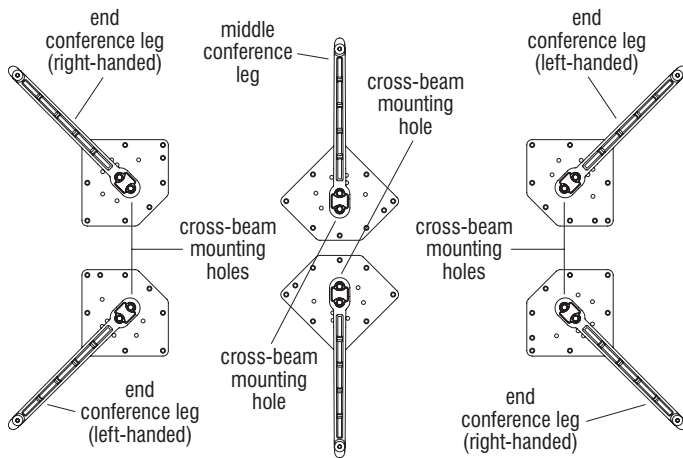

Figure 1 - (top view)
2. Identify the end conference legs and any middle conference legs. Carefully place the conference legs upside down on a soft, protective surface and place them in the general vicinity where they will be assembled on the conference table. Make sure a left- and right-handed end conference leg is located on each end of the table and their cross-brace mounting holes are facing each other (Figure 1).